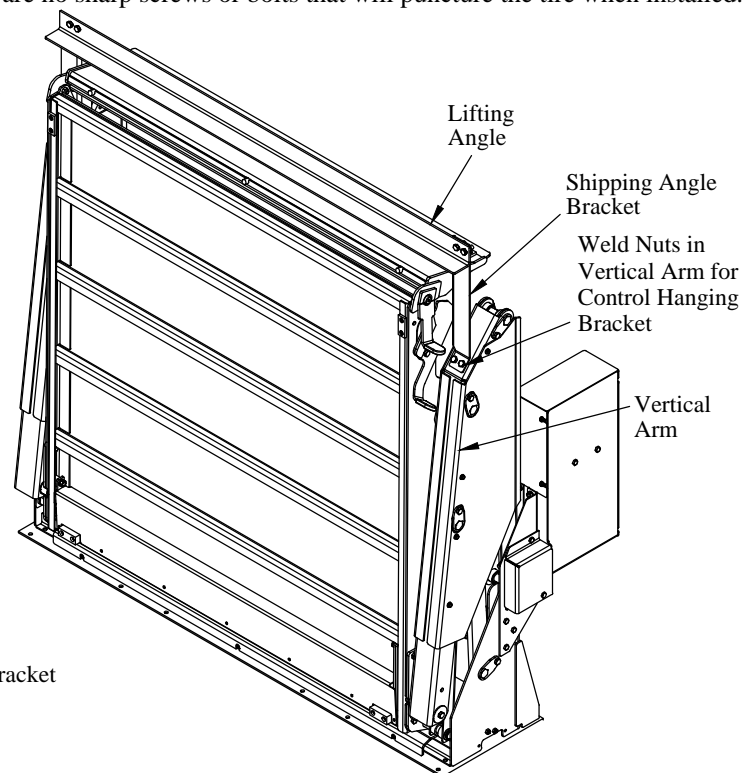

Figure 21: Lifting angle and vertical arm.
5. **Unbolt** and **Remove** the lifting angle and brackets (Figure 21). There are weld nuts inside the vertical arm.